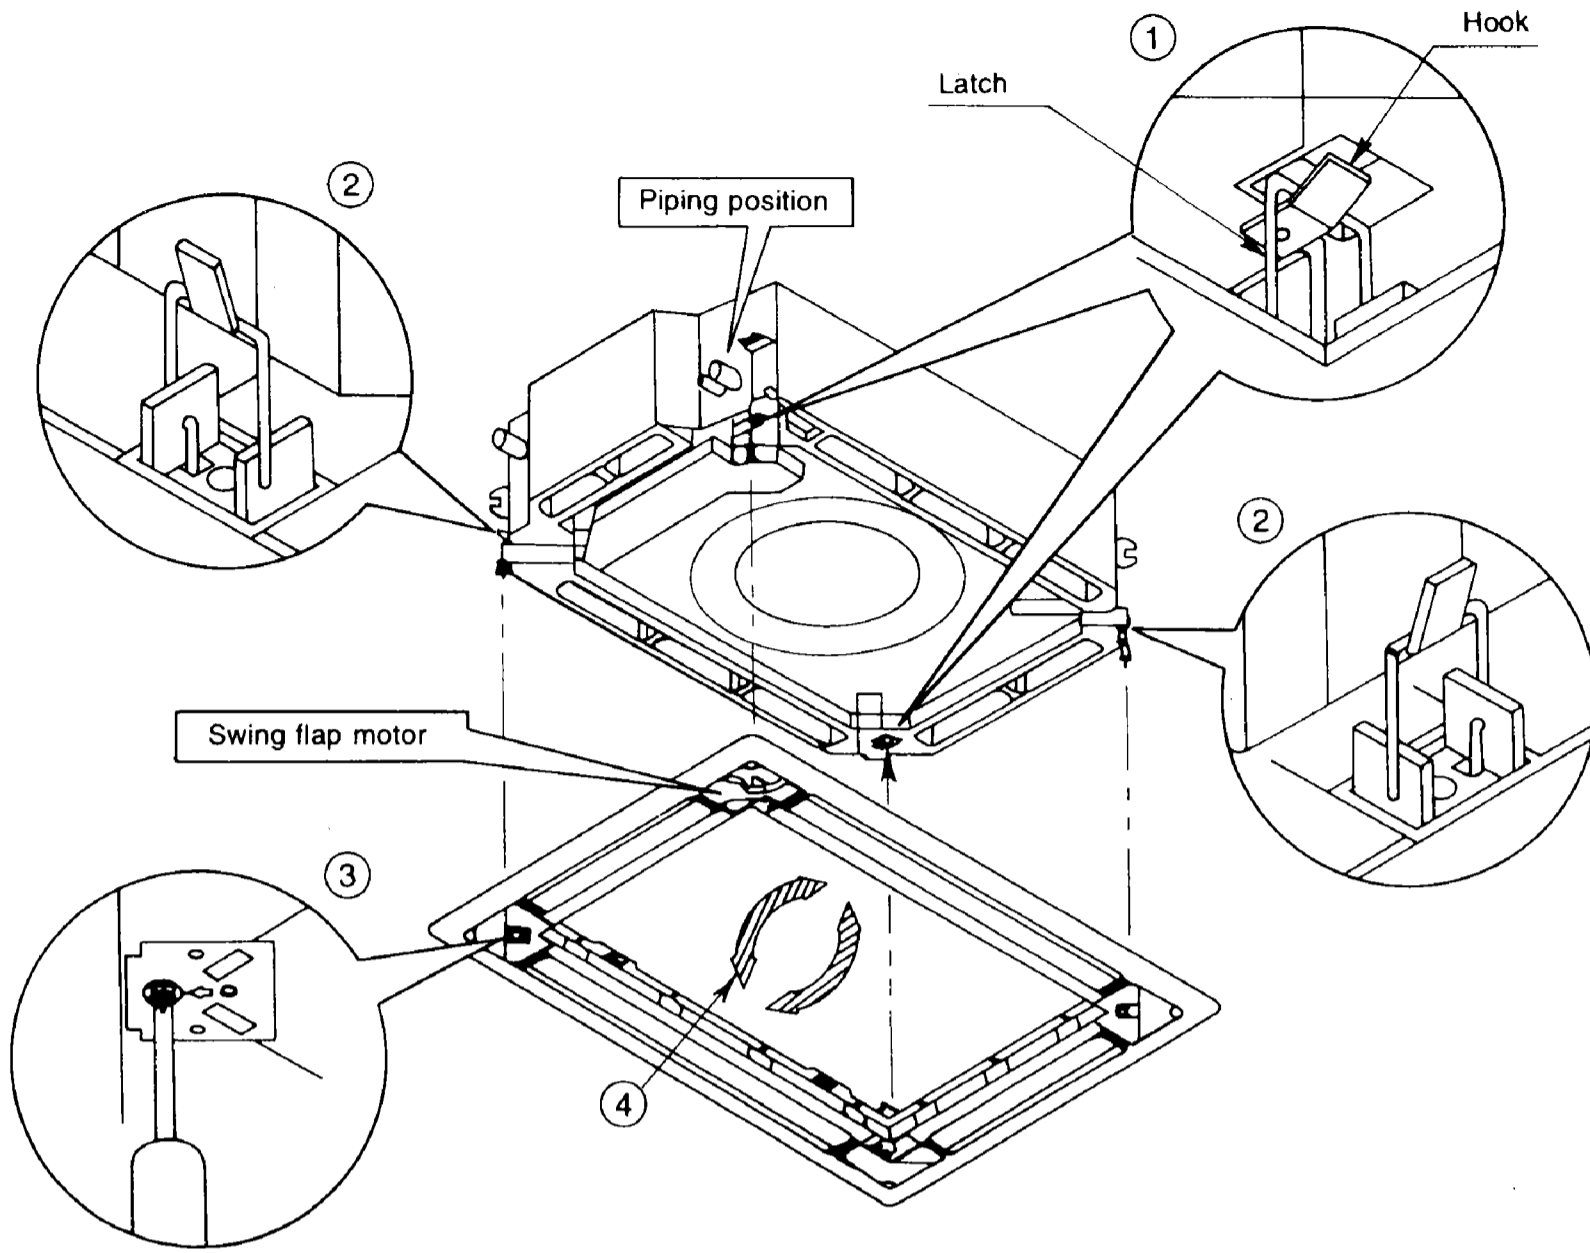

Fig. 6
- (1) Set the decoration panel to the indoor unit body by matching the position of the swing flap motor of the decoration panel to the piping position of the indoor unit as shown in Fig. 6.
- (2) Install the decoration panel
- ① Temporarily install the decoration panel to the indoor unit by hanging the latch on the opposite side of the swing flap motor of the decoration panel to the hook of the indoor unit body. (2 positions)
- ② Temporarily hang the remaining 2 latches to the hooks on the sides of the indoor unit.
- ③ Screw all 4 hexagon head screws located right beneath the latches in approximately 15 mm. (Panel will rise)
- ④ Adjust the decoration panel by turning it to the arrowed direction in Fig. 6 so that the ceiling opening is completely covered.
- ⑤ Tighten the screws until the thickness of the sealing material between the decoration panel and the indoor unit body reduces to 5-8 mm.